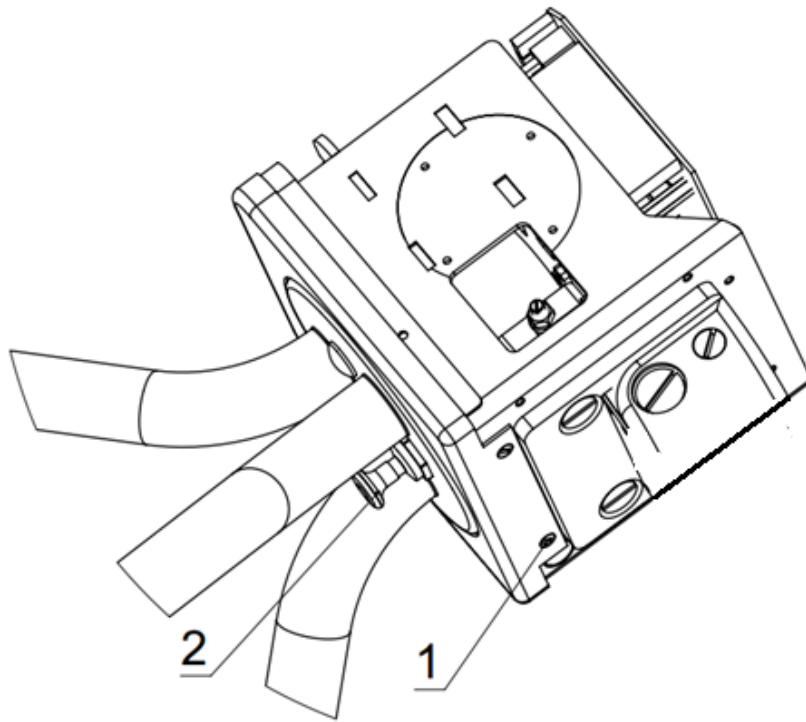
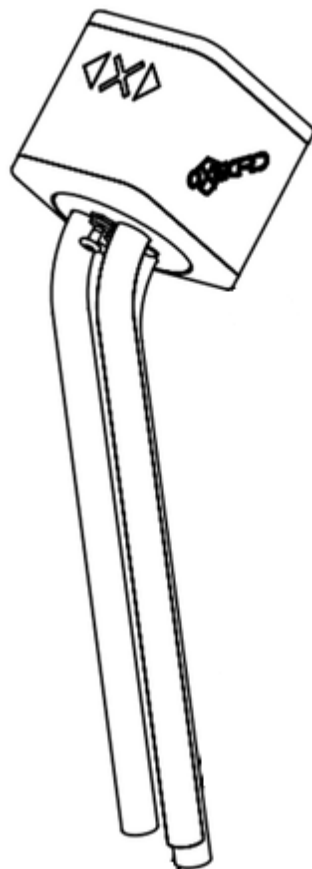

Fig. 7.
Fig. 8.
- retract a fixation lock 2 of the arms (Fig.7), holding one arm by the hand in a fixed position, unfold other arms into operating position.
Switching to this mode is carried out by mechanical way. Switch the turnstile to “Antipanic” mode, to do this press button 4 on the control panel. Pull off fixation limit stop 2 of the arms (Fig.7), holding one arm by hand in a fixed position, rotate the other arm clockwise in such a way that all the arms are aligned (Fig.8). Then tighten further down all the arms folded together to free passage area.